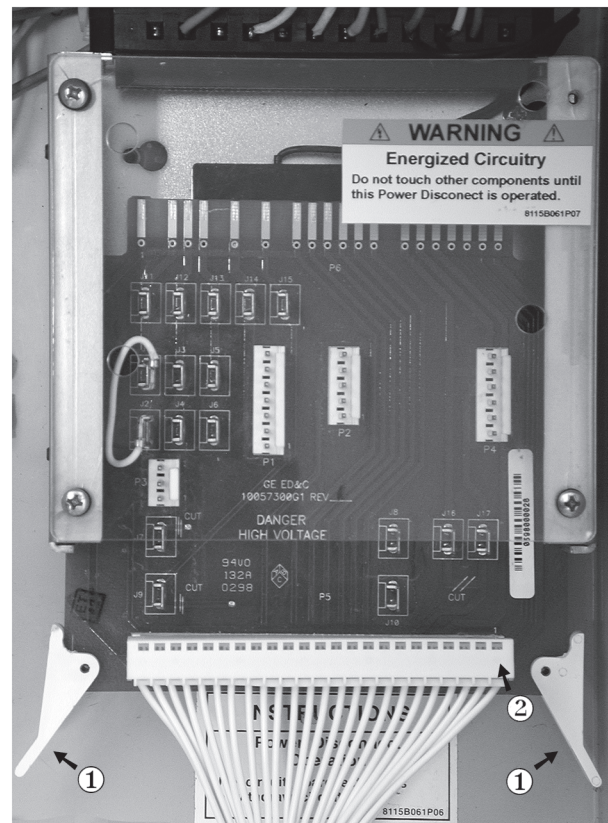

Figure 8-3 Power Disconnect Circuit Board
2. Remove the power disconnect circuit board from the holder by pressing the ejection ears on the circuit board (Item #1, Figure 8-3).
3. Disconnect the 24-pin connector from the power disconnect circuit board (Item #2, Figure 8-3).
4. Connect the 24-pin connector to the power disconnect circuit board (item #2, Figure 8-3).
6. Connect the power disconnect circuit board to the holder (Item #1, Figure 8-3).